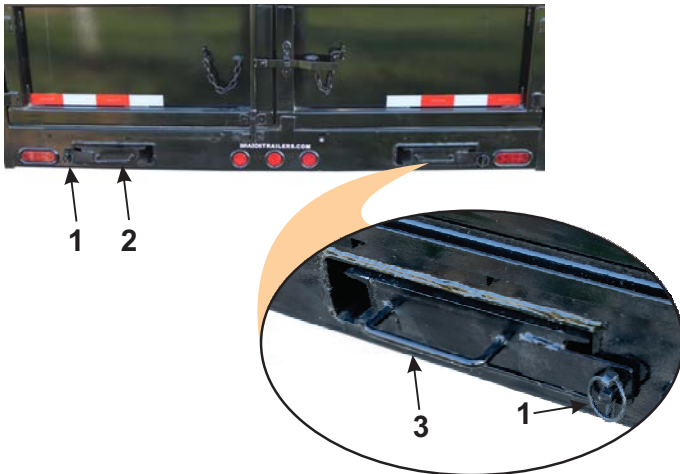

Figure 3-30 – Trailer Ramp Storage and Quick Clips
7. After loading, remove the ramps from the service position at the rear of the trailer. Return the ramps to the under deck transport location (2, 3, Figure 3-30) and secure them using the quick clips (1, Figure 3-30). **NOTE:** Make sure to flip the quick clip lock ring to the downwards lock position.